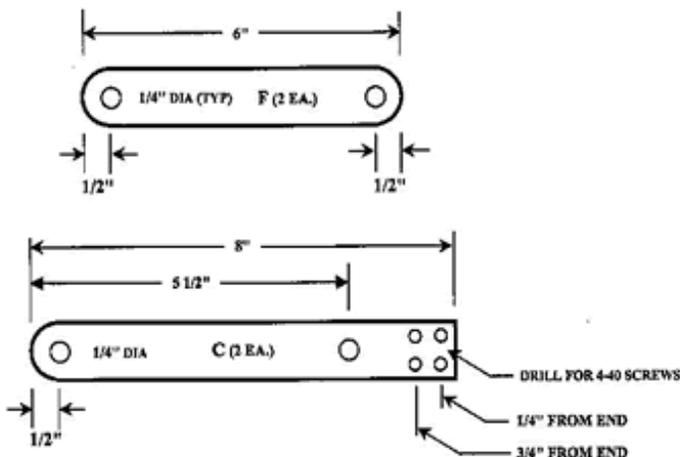

Figure 7 - 1" x 1/8" Aluminum
1. Cut the 1" flat aluminum for Parts C and F to the dimensions shown in Figure 7.
2. Mark and center punch the locations for holes to be drilled in Parts C and F. Hole locations are shown in Figure 7.
3. Round over one end of Part C (both pieces), as shown in Figure 7. Again, I used a file to round over the ends of all pieces.
4. Round over both ends of Part F (both pieces), as shown in Figure 7.
5. Drill four holes for the 4-40 x 1/2" screws in the squared end of Part C (both pieces), as shown in Figure 7. Deburr the eight holes.
6. Drill one 1/4" hole in the rounded end of Part C (both pieces), as shown in Figure 7. Deburr the two holes.
7. Drill one 1/4" hole in Part C (both pieces) 5 1/2" from the rounded end, as shown in Figure 7. Deburr the two holes.
8. Drill two 1/4" holes in both ends of Part F (both pieces), as shown in Figure 7. Deburr the four holes.